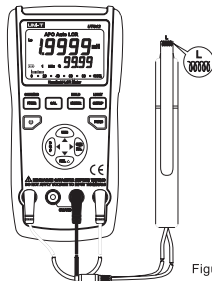

Figure 10
3) Insert the inductor into input terminals or connect the inductor to the meter using the test clamp(See Figure 10).